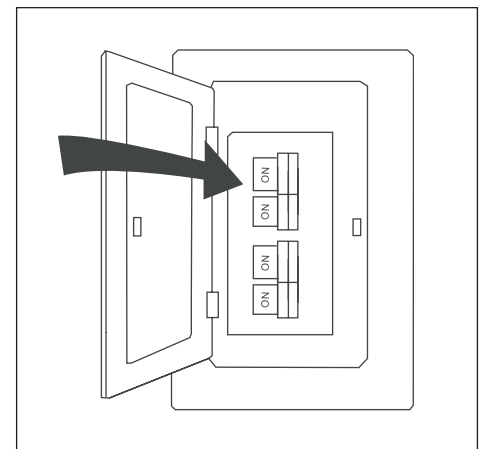

Figure 5.9
- Turn ON the electrical power at the main fuse or circuit breaker and the wall switch. Assembly is complete (Figure 5.9).